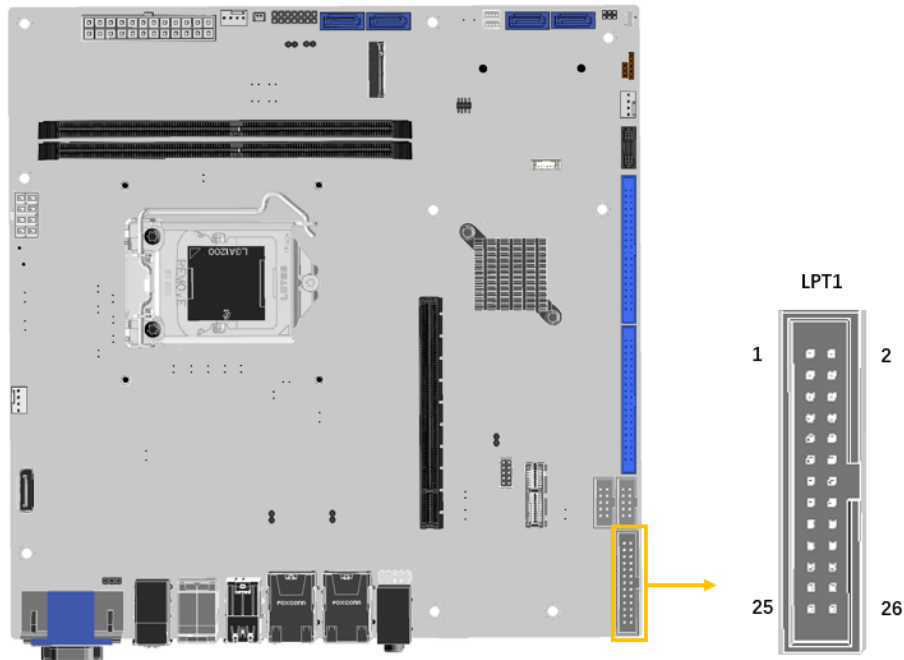

Figure 3-16: Parallel port connector Location
- CN Location:** See Figure 3-16